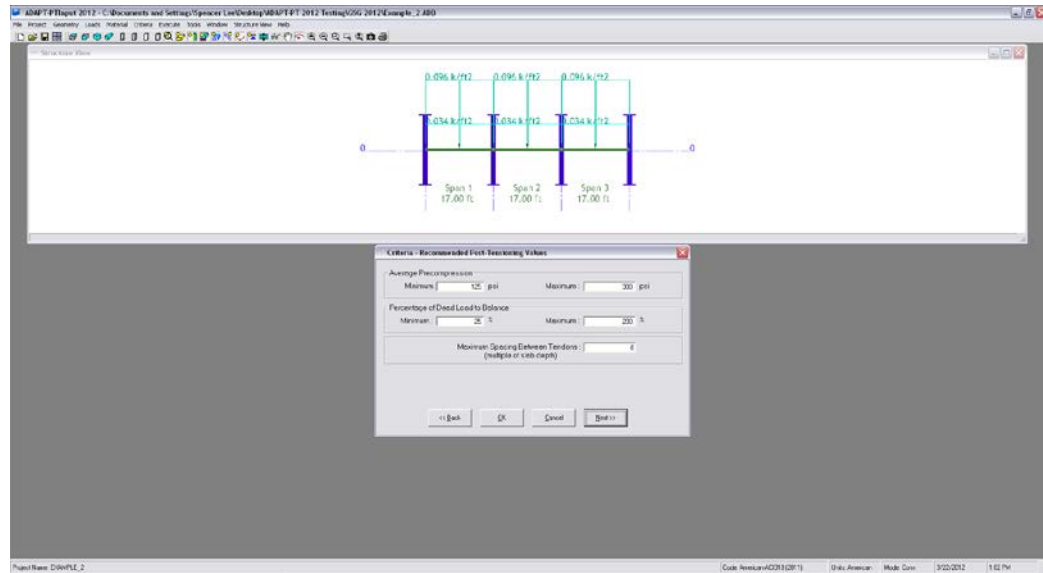

FIGURE 3.1-14
3.1.5.2 Enter The Recommended Post-Tensioning Values (Fig. 3.1-14)